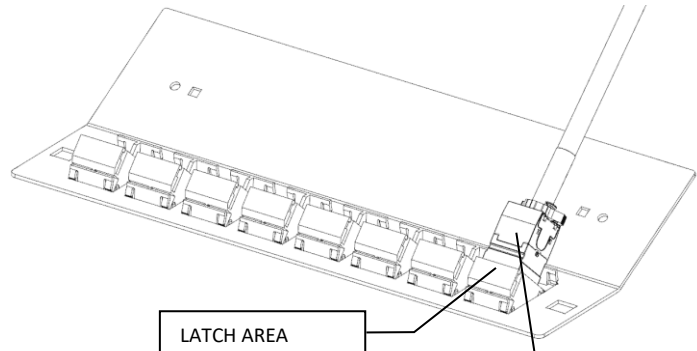

Fig.21
2. Slide the jack into module port opening at slight angle (see Fig. 21)
4. Snap jack into module fascia by pushing down on top of jack (see Fig. 21)